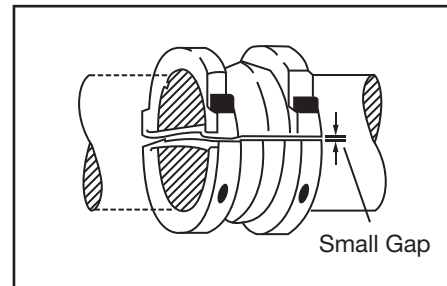

Figure 2
**8. Assemble inner ring halves onto shaft.** Position the inner ring half with the threaded holes on the underside of the shaft. Prop it up against the shaft by hand (small bearings), by wooden wedges, or by nylon sling (large bearings). Position upper inner ring half so that both halves show the etched number on the same side. Apply light coating of Loc-Tite to the shoulder and clamping screws and reinsert into their original positions. Lightly hand tighten both inner ring halves on the shaft using a metric socket screw key provided with the bearings. See Figure 2. Using a rubber or rawhide mallet, tap down the inner ring all around the outside diameter to ensure complete seating of the ring halves on the shaft.
A tight fit of the inner ring on the shaft is necessary for satisfactory operation of bearing. There must be a gap on at least one side of the split joints. The best practice is to have an approximately equal gap on both sides of the split joints. See Figure 2.